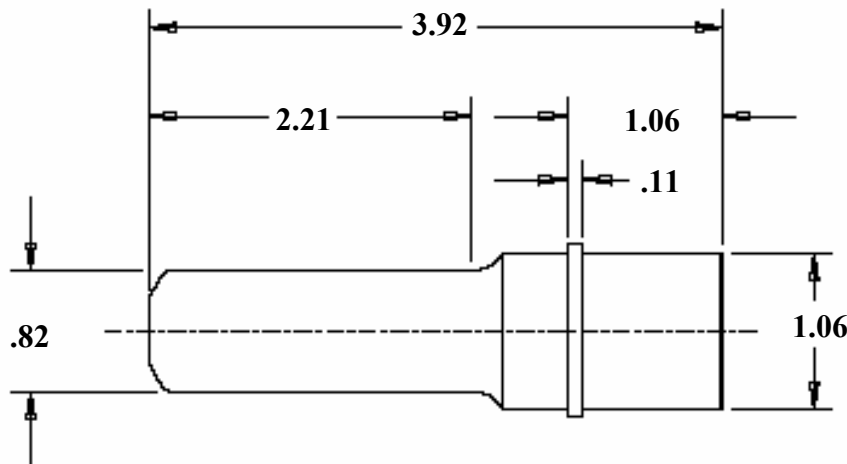

Figure 1
**DIMENSIONAL DATA** (all measurements in Inches, see figure 1)